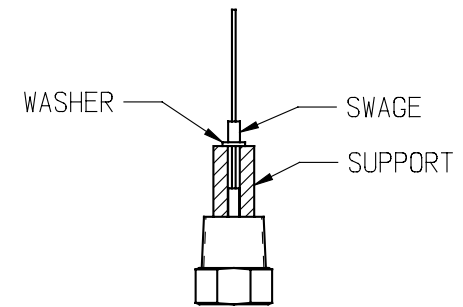

FIGURE 2
- G. INSTALL NEW SWAGE FROM KIT (ITEM 5) ONTO CABLE. CRIMP SWAGE ON CABLE USING CRIMPING TOOL OR PLIERS. SEE FIGURE 2.